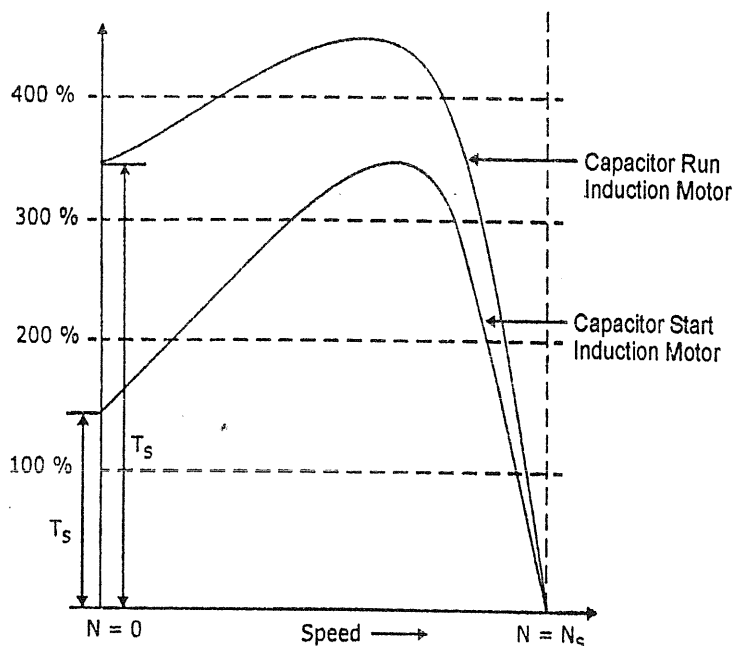

FIG. 4.26 : TORQUE SPEED CHARACTERISTIC
- The torque-speed characteristic of the capacitor start induction motor and capacitor run single phase induction motor is shown Fig. 4.26.
- The torque-speed characteristic of the capacitor run single phase induction motor is shown in Fig. 4.26.